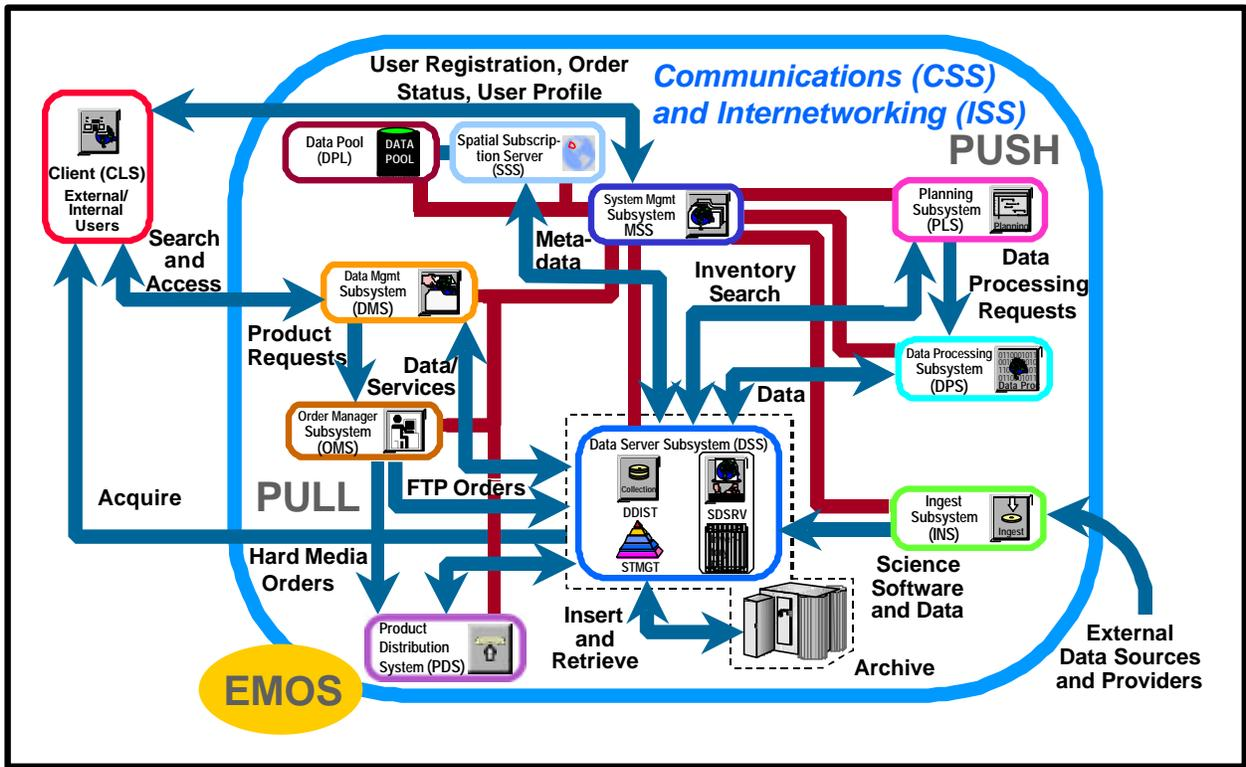
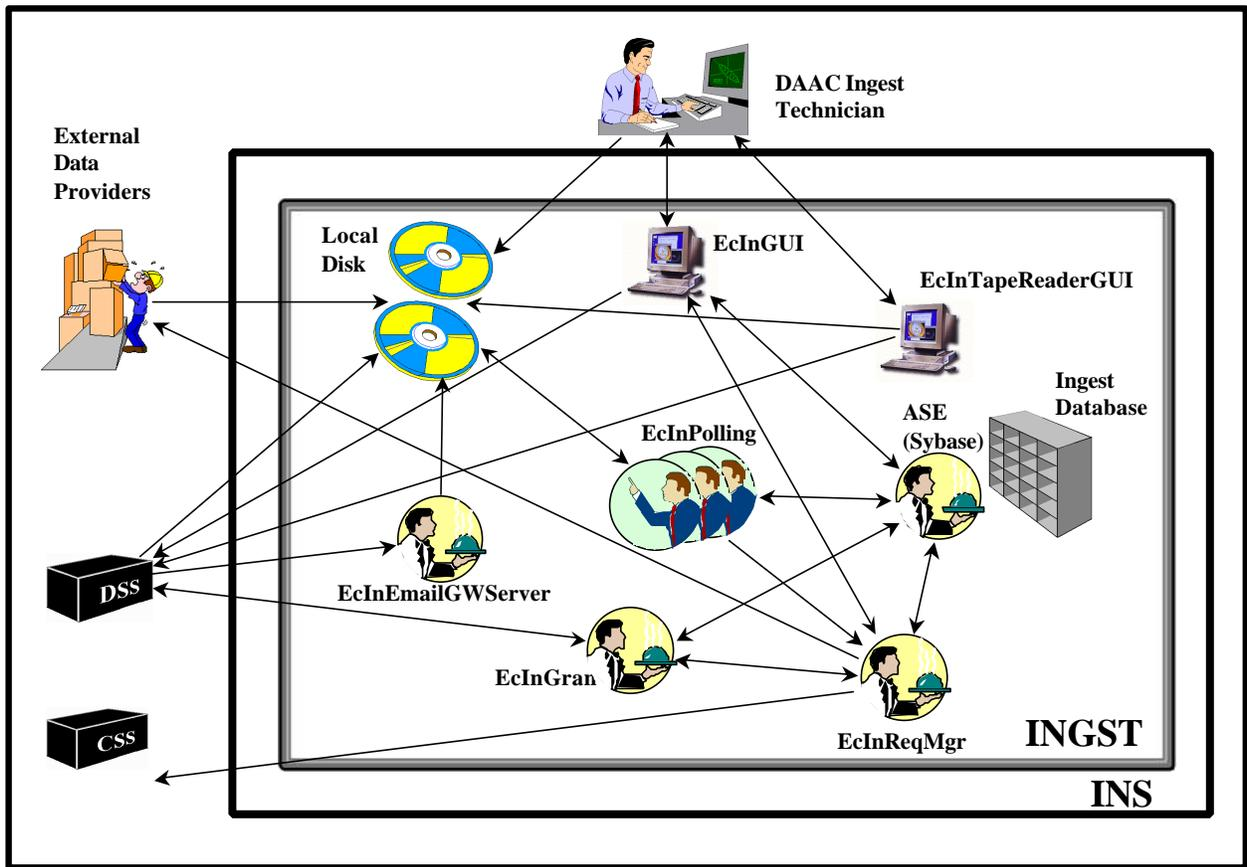

Figure 1. ECS Context Diagram
Figure 2. Ingest Subsystem (INGST CSCI) Architecture Diagram
The ECS Context Diagram (Figure 1) shows the relationships among subsystems within the Science Data Processing component of ECS. The Ingest Subsystem (INS) is the point of entry to ECS for data from external data providers. The Data Server Subsystem (DSS) manages access to the data repositories, where ingested data are stored. Of course, the context diagram shows a generalized (high-level) view of ECS. The Ingest architecture diagram (Figure 2) focuses on the Ingest process and its relationships with other subsystems. The Storage Management (STMGT) and Science Data Server (SDSRV) architecture diagrams (Figures 2 and 3 respectively) focus on those two individual computer software configuration items (CSCIs) of the Data Server Subsystem and their relationships with each other and with other subsystems.
- Ingest (Figure 2) transfers data into ECS, performs preprocessing, and forwards the data to DSS for archiving.
The Ingest Subsystem (INS) is composed of just one CSCI; i.e., INGST. (The designation “INGST” is derived from **INGEST**.) The subsystem has the following major components as shown in Figure 2: